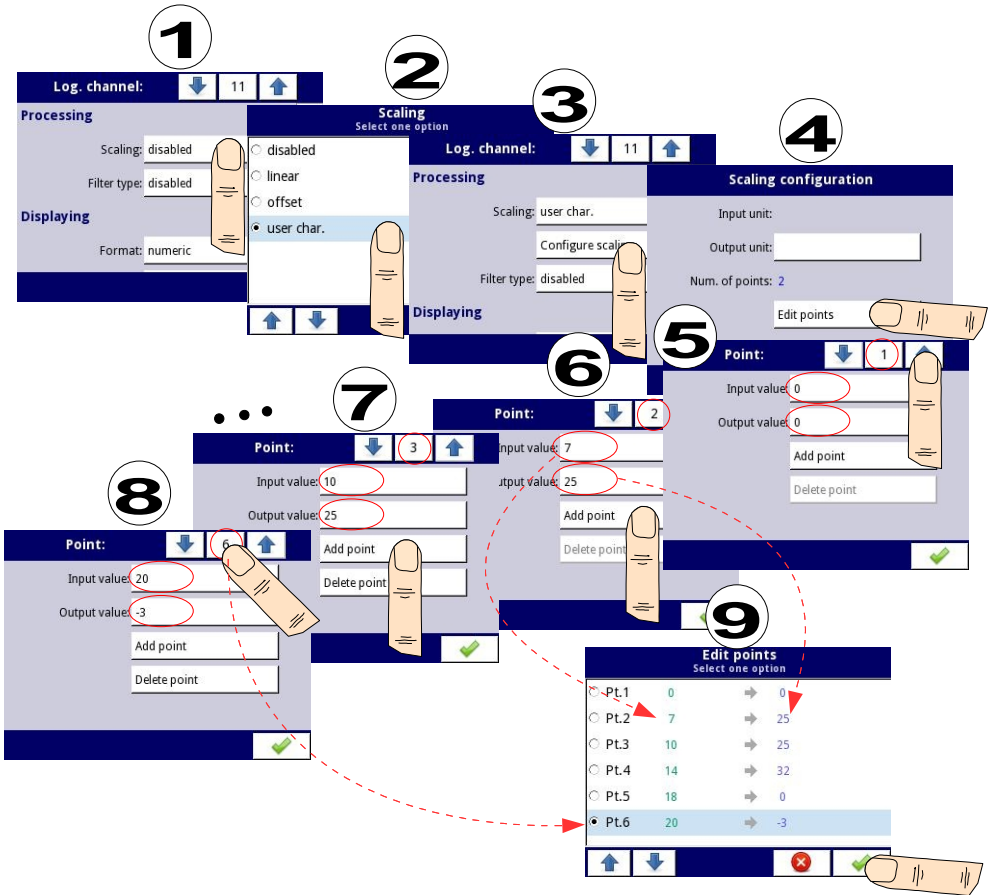

Fig. 7.33. Configuring the user characteristic
1. Press the button next to the **Scaling** label and select **user characteristic** option (point **(1)** and **(2)** in Fig. 7.33).
2. Press the **Configure scaling** button and enter the **Scaling configuration** menu (point **(3)** in Fig. 7.33).
4. Press the **Edit points** button (point **(4)** in Fig. 7.33) and go to **Edit points** menu.
For **Point 1** set input and output value (point **(5)** in Fig. 7.33).
5. Switch to **Point 2** by using the arrow keys and there also set the value of input and output (point **(6)** in Fig. 7.33).
8. At the end we check all the points defined by clicking the middle button between the arrows in the upper right corner of the screen (point **(8)** and **(9)** in Fig. 7.33).